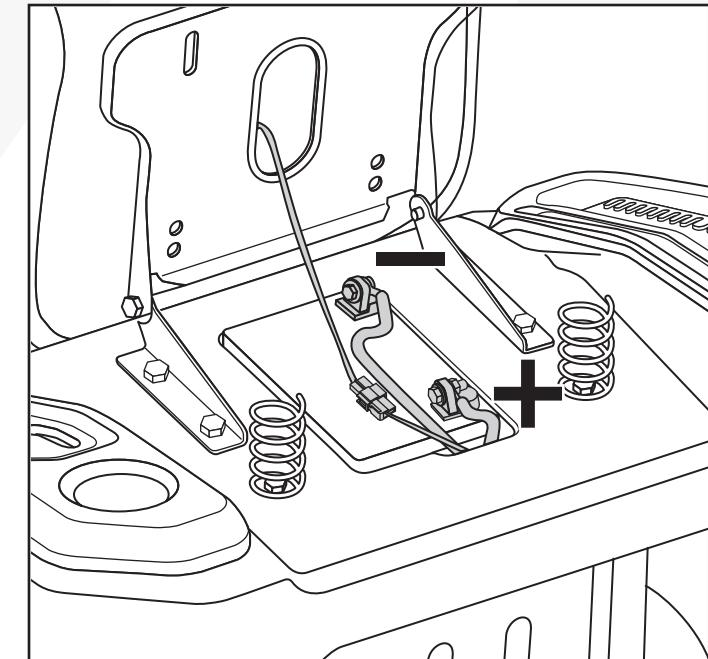

Fig. 8
1. Attach the positive cable (red) to the positive battery terminal using the bolt and nut to a torque of 2-4 ft-lbs. (Fig. 8)
2. Attach the negative cable (black) to the negative battery terminal using the bolt and nut to a torque of 2-4 ft-lbs. (Fig. 8)